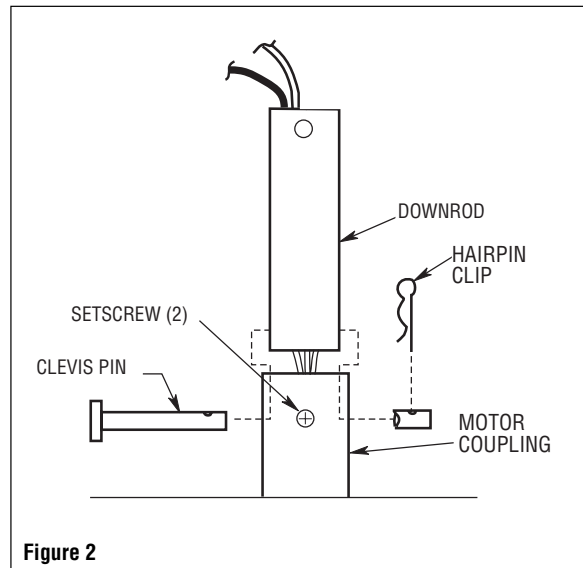

Figure 2
3. While pulling up on the downrod, securely tighten the two setscrews in the motor coupling (Figure 2).